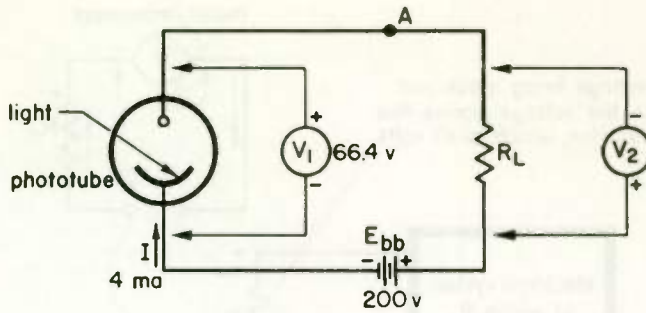

Fig. 20
6. In Fig. 20 what is the resistance of R_L ?